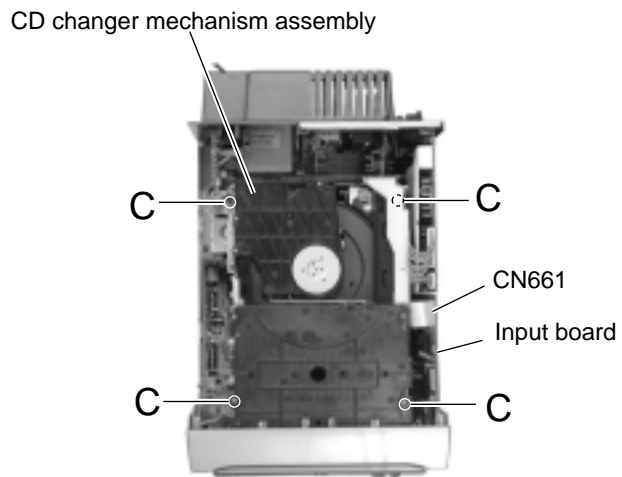

Fig.3
■ Removing the CD changer mechanism assembly (See Fig.3 to 5)